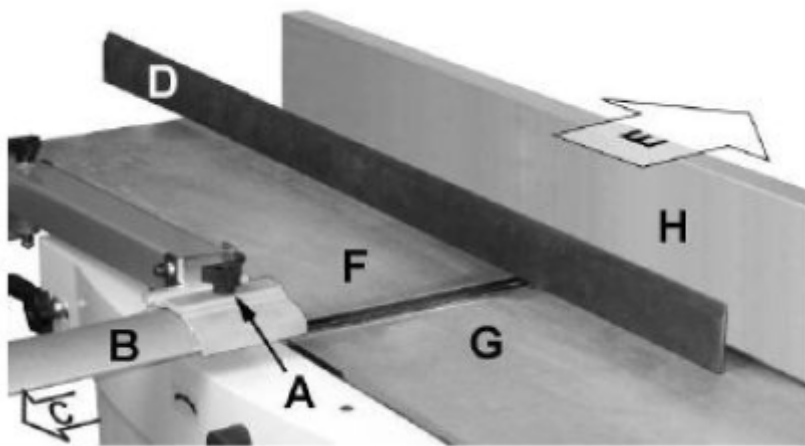
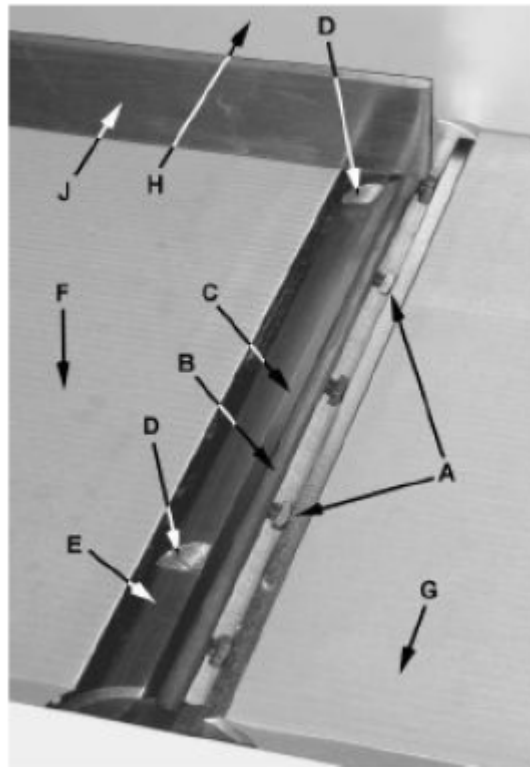

Figure 8
Figure 11
Referring to Figures 8 and 9:
2. Remove the cutterhead guard (B, Fig. 8). Referring to Figures 11 and 12.
3. Carefully number each knife blade (C) with a magic marker to differentiate each.